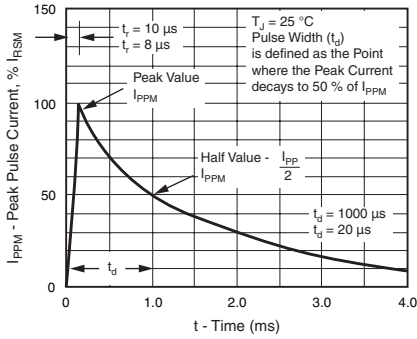

Figure 1. Pulse Waveform
(1) Non-repetitive current pulse, per Fig. 1
(2) Mounted on 6.0 x 6.0 mm copper pads to each terminal